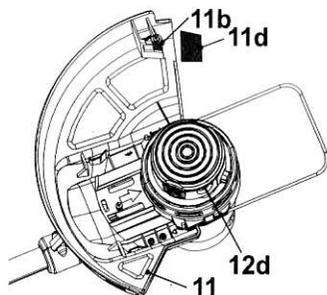

Fig. 12
The guard (11) protects the operator against thrown objects during operation. It is equipped with a knife (11b) that cuts the trimming lines (12d) (Fig. 12).